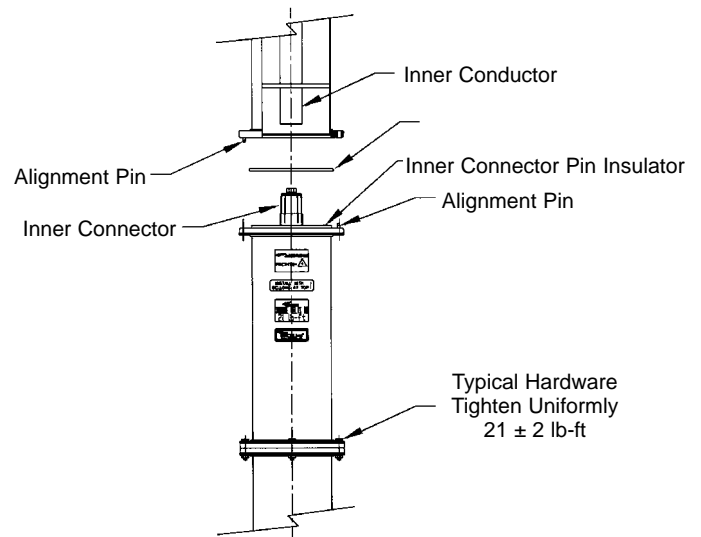

Figure 3
- 4 Align inner connector bullet with inner conductor from previously installed section, combiner or antenna. Mate bullet with inner conductor and keep aligned, Figure 3. Align flange pin with corresponding flange alignment hole and mate flanges. Verify flange insulator is properly seated in appropriate flange groove. Firmly push flanges together while checking that O-ring remains in correct position.